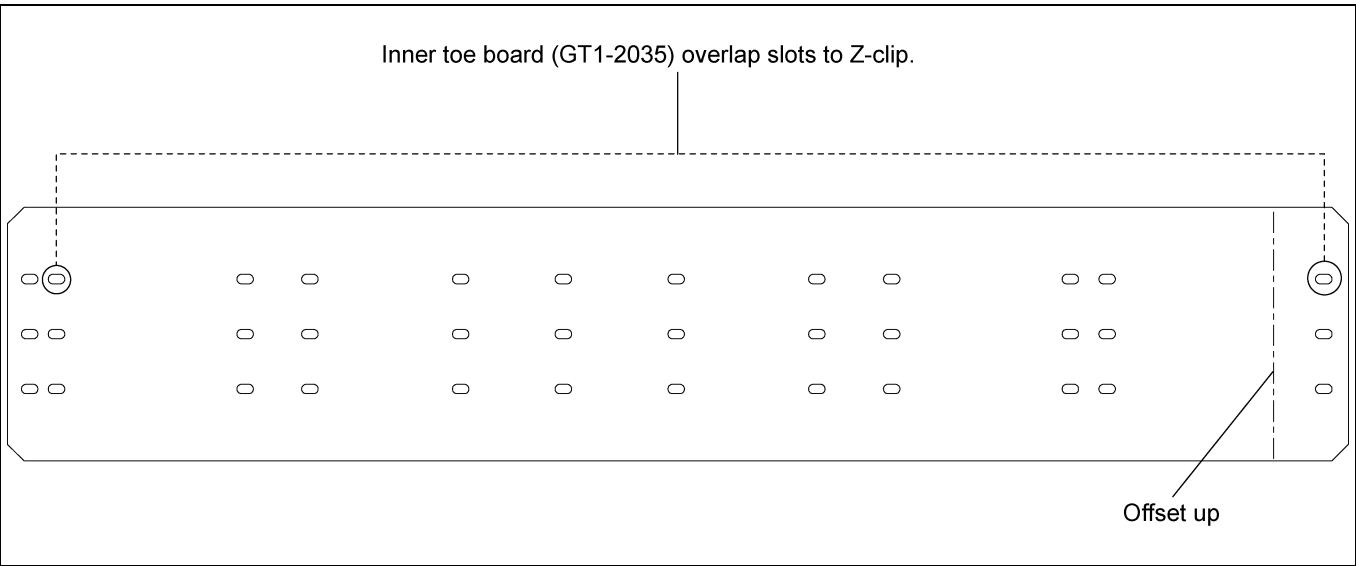

Figure 4I 18' Inner Toe Board (GT1-2035)
3. Inner toe board is arranged with overlap slots on each side. Install 18' inner toe boards (GT1-2035) to corresponding slots as shown in Figure 4I.